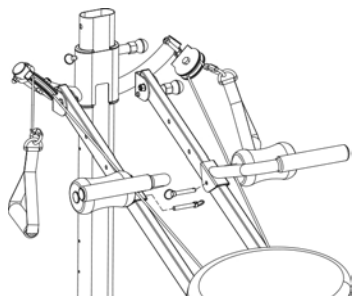

Fig. 2
3. Insert the 2 Short Hitch Pins through the holes on the Wing Attachment Brackets and the hole on the Rails, as shown in Fig. 2.